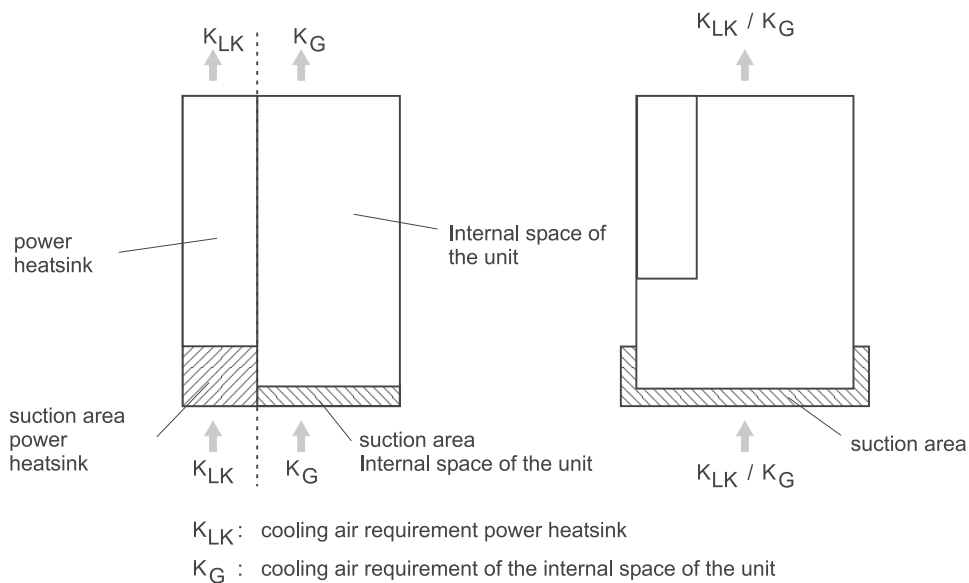

Figure 31: Cooling air requirement
- 8) The cooling air temperature refers to the total suction area, see ▶Figure 31◀ on page 102.
With the mounting of the device into a switching cabinet it therefore can be necessary to use additional fans, so that the necessary cooling air requirement is covered (see ▶Figure 31◀ on page 102). If the necessary cooling air requirement of the power heat sink is not provided, then the output power of the device has to be reduced.